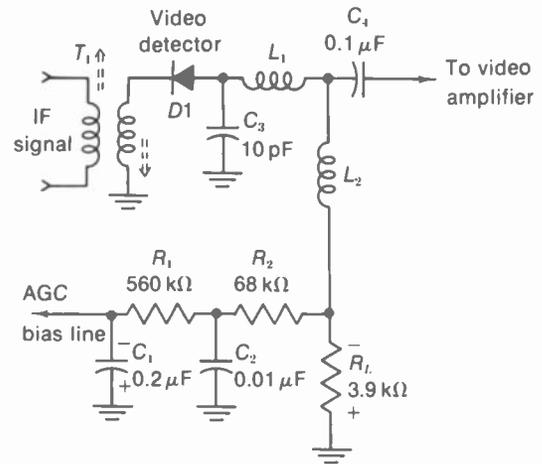

FIGURE 15-8 AGC BIAS FROM VIDEO DETECTOR LOAD RESISTOR  $R_L$ .
It should be noted that the picture IF signal has the dc component of the video signal in the modulation. The simplest method of using the IF signal for AGC is to take the AGC bias from the video detector load resistor, as shown in Fig. 15-8. With integrated circuits, the AGC circuit can be part of the IC chip for the IF amplifier.
**AGC bias from the video detector output.** Refer to Fig. 15-8. Actually,  $D1$  is the video detector, but the dc output voltage across the load resistor  $R_L$  is proportional to signal strength. Therefore, the voltage across  $R_L$  is filtered and used for AGC bias.  $R_1$  and  $R_2$  isolate the AGC filter capacitors  $C_1$  and  $C_2$  from the detector load  $R_L$ . The combination of video detector and AGC rectifier is seldom used because the diode cannot be a peak rectifier to measure signal strength correctly. Also, the video detector cannot be keyed for the AGC function. However, this circuit illustrates a method of rectifying the IF signal for the AGC voltage.